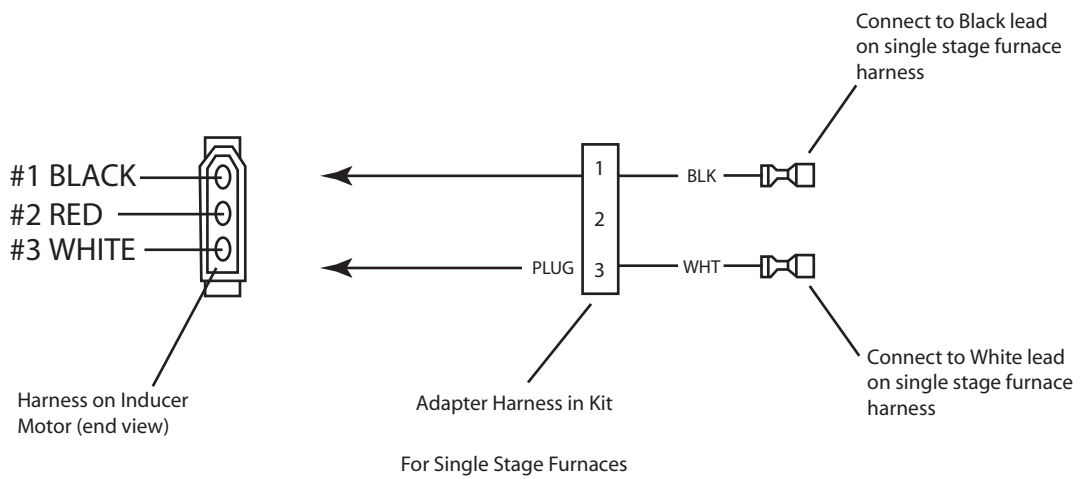

Fig. 2 - Installing Single-Stage Adapter Harness
7. Connect inducer motor leads to inducer motor (See Fig 2).